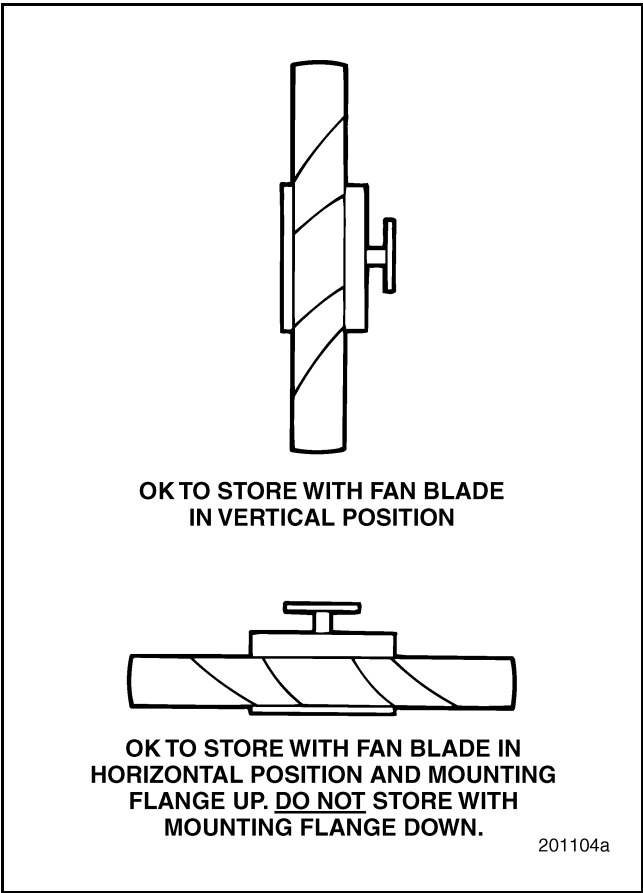

Figure 121 — Viscous Fan Drive Assembly Storage
- If the fan assembly is equipped with a viscous drive, be sure to store the assembly either horizontally, with the fan face down (hub flange up), or vertically, as shown in Figure 121. This will prevent fluid leaking from the assembly.